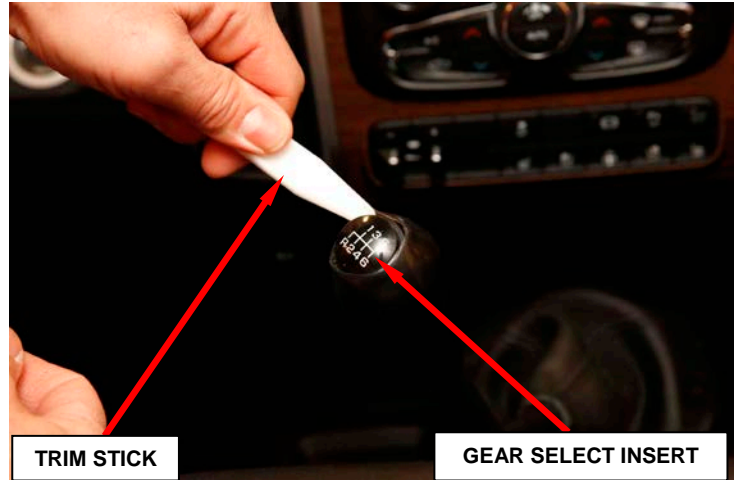

Figure 1 – Gear Select Insert
1. Using a trim stick C-4755 or equivalent, insert the trim stick into the gear shifter knob using moderate force to remove and save the gear select indicator insert (Figure 1).